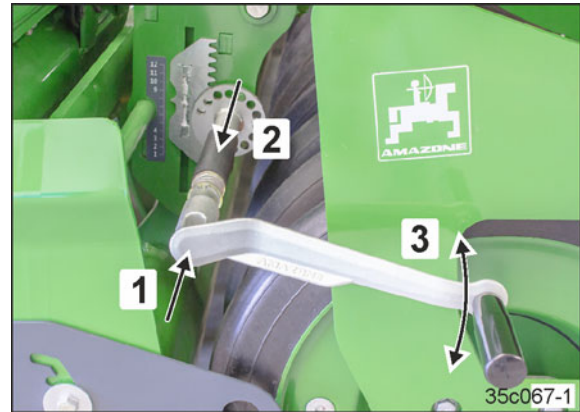

Fig. 126
1. Remove the operating tool from the parking position (Fig. 60/1, see page 78) and fit in on the adjustment device (Fig. 126/1).
Before releasing the locking mechanism, hold the operating tool (Fig. 126/3) in position with a firm grip!
2. By turning the operating tool (Fig. 126/3), offload and unlock the locking teeth (Fig. 126/2).